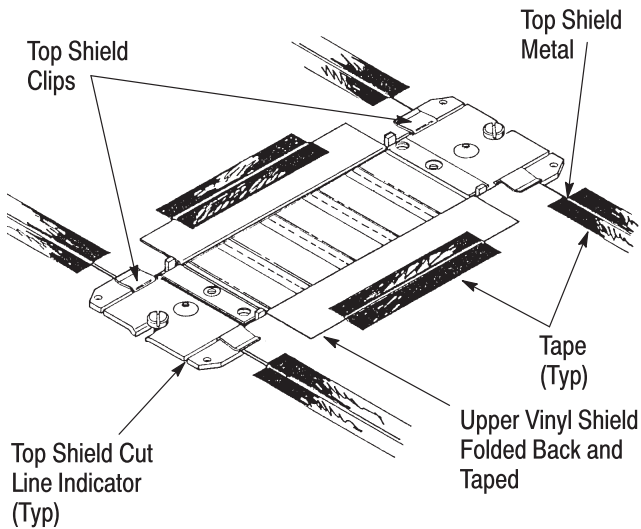

Figure 4
5. Lay top metal shield. Mark top shield at cut line indicator and cut top shield. Slide top shield under top shield bonding clips. See Figure 4.